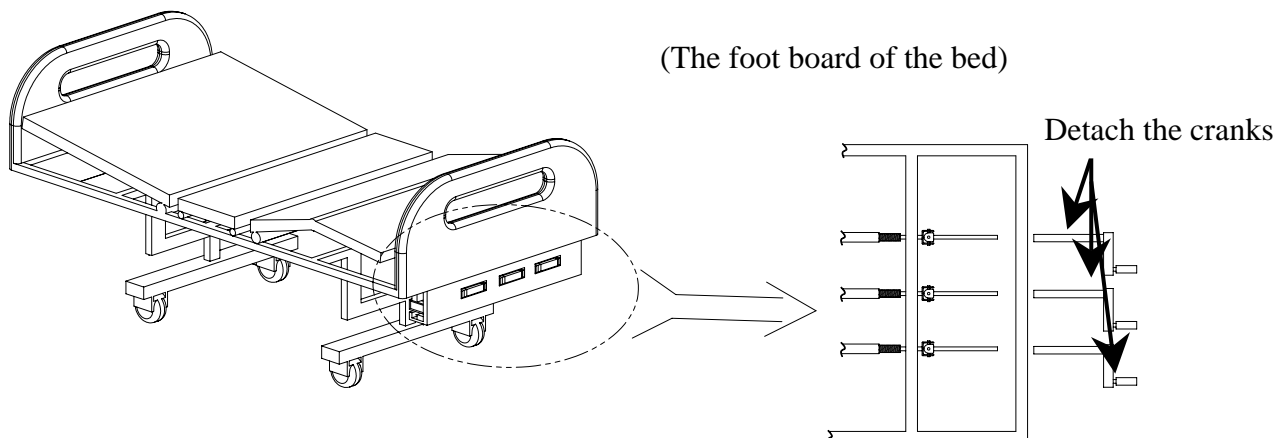

Fig. 1
1. Detach the cranks on the foot board of the bed (Fig. 1):